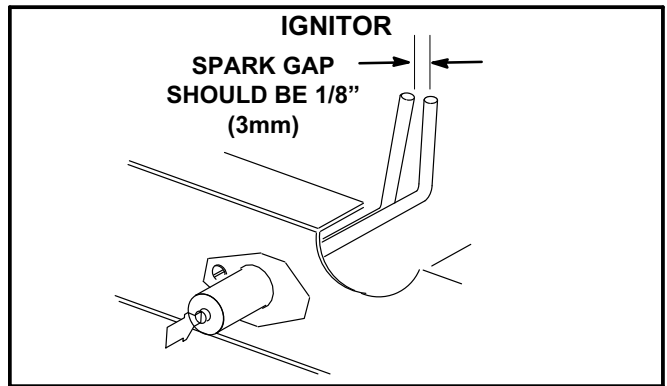

FIGURE 35
- 5- Locate the ignitor under the right burner. Check ignitor spark gap with appropriately sized twist drills or feeler gauges. See figure 35.